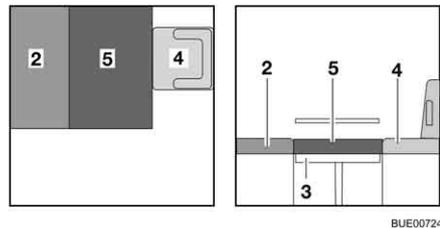

Fig. 111 After conversion
- Place the additional cushion (Fig. 111,5) on the table.
- If required, push the driver's seat (Fig. 111,4) back to the rear.